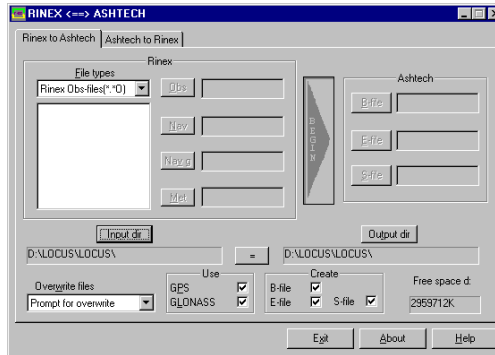

Figure 7.1: RINEX-to-Ashtech Tab
1. Select the **RINEX Converter** in the Utilities window to open the *RINEX Converter* to the **RINEX to Ashtech** tab opens (Figure 7.1).